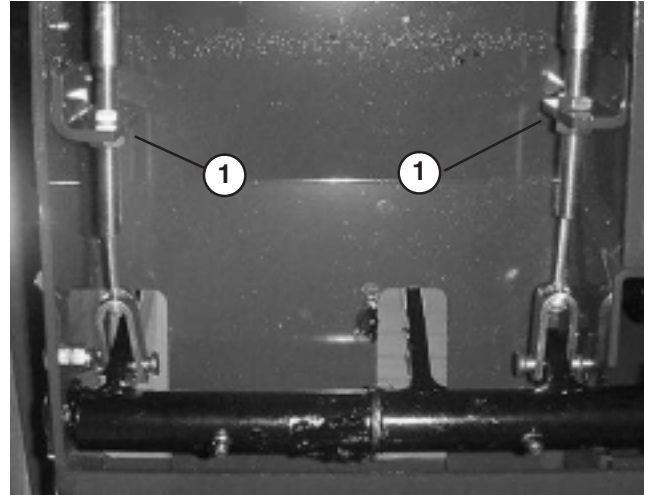

Figure 44
2. To reduce free travel of brake pedals — tighten the brakes — loosen front nut on threaded end of brake cable (Fig. 44). Then tighten rear nut to move cable backward until brake pedals have 1/2 to 1 inch (13 mm to 25 mm) of free travel. Tighten front nut after brakes are adjusted correctly.